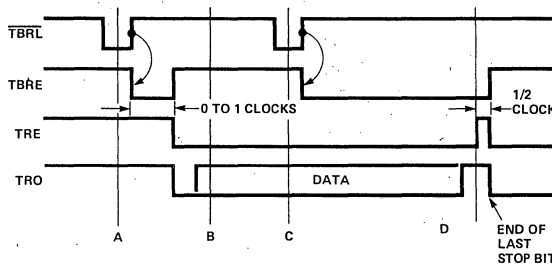

FIGURE 7. Transmitter Timing (Not to Scale)
Transmitter timing is shown in Figure 7. (A) Data is loaded into the transmitter buffer register from the inputs TBR1 through TBR8 by a logic low on the TBRLoad input. Valid data must be present at least t_{DS} prior to and t_{DH} following the rising edge of TBRLoad. If words less than 8 bits are used, only the least significant bits are used. The character is right justified into the least significant bit, TBR1. (B) The rising edge of TBRLoad clears TBREmpty. 0 to 1 clock cycles later, data is transferred to the transmitter register, TREmpty is cleared and transmission starts. TBREmpty is reset to a logic high. Output data is clocked by TRClock, which is 16 times the data rate. (C) A second pulse on TBRLoad loads data into the transmitter buffer register. Data transfer to the transmitter register is delayed until transmission of the current character is complete. (D) Data is automatically transferred to the transmitter register and transmission of that character begins.